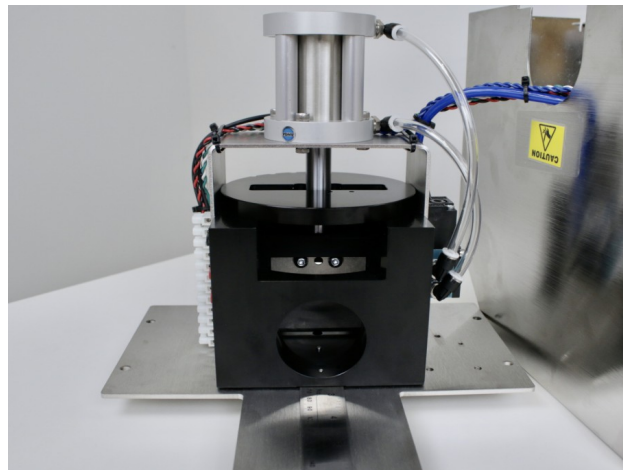

Figure 5.2.1
- Ensure air and power supply has been disconnected from the unit prior to removing the cover. Remove the four (4) thumbscrew cap screws securing the cover to the base plate. Lift cover out of the way.
- Place a magnet-tipped tool on the cutter blade, then remove two (2) mounting screws using a 1/8" hex key/wrench. (*T-handle preferred*) **Figure 5.2.1**